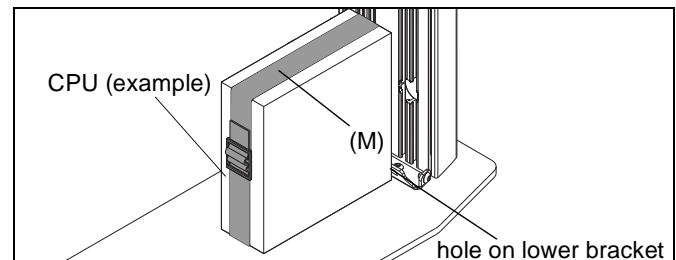

Figure 15
1. Route CPU strap (M) through hole on lower bracket and around CPU to secure CPU to column base. (See Figure 15)